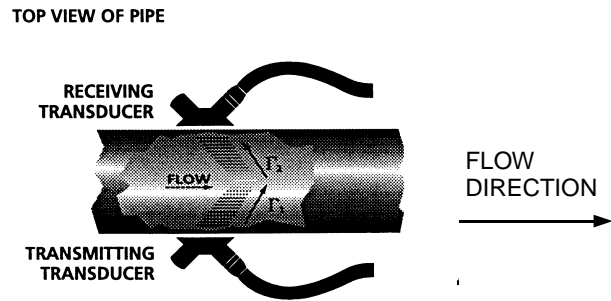

Figure 2 Transducer Cable Direction
- D. Place each transducer under the mounting strap, 180° apart on the pipe. Ensure that the transducer cables are facing the same direction. See **Figure 2**.